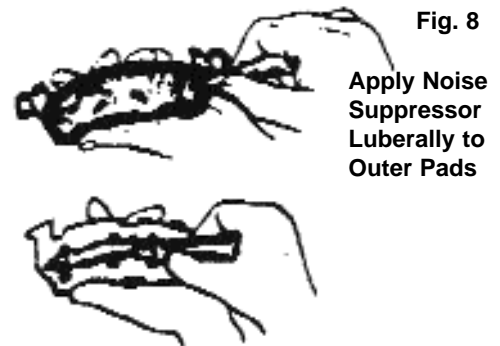

Fig. 8
2. Apply a vibration/noise suppressing compound to the back of the brake pads as shown (Fig. 8).